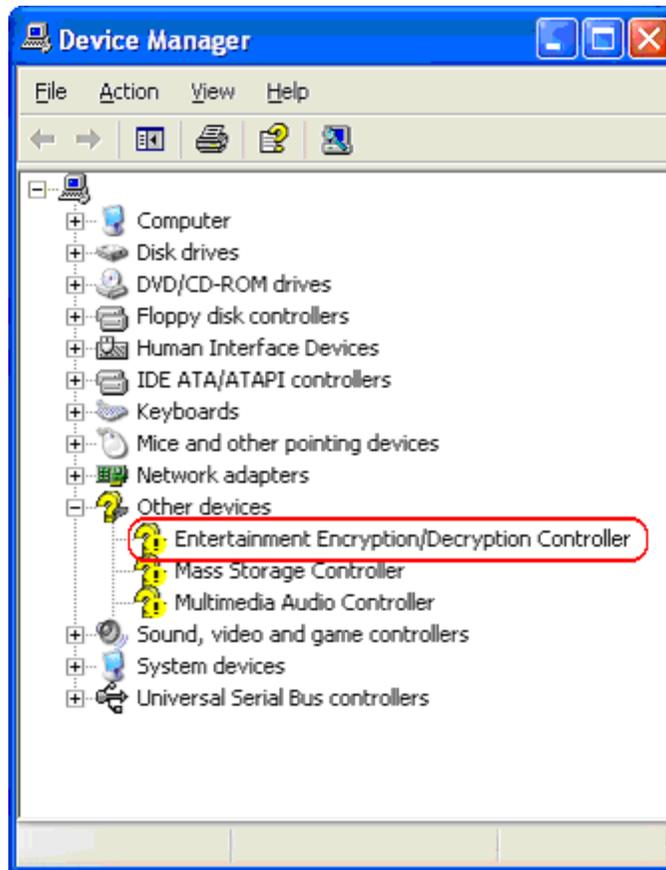

Figure 6-37: Device Manager List
Step 4: A list of system hardware devices appears (Figure 6-37).